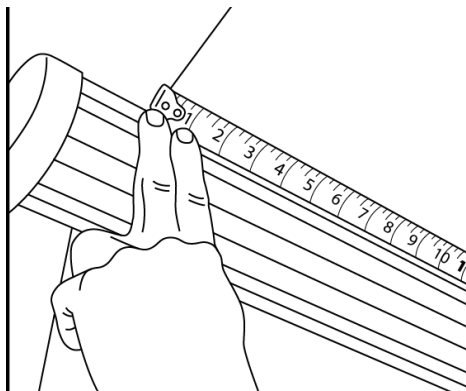
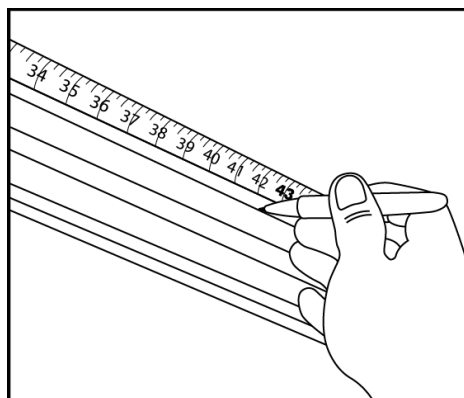

Fig.20
Fig.21
1. With the awning fully extended, measure the distance calculated using the chart on the previous page from the edge of the awning fabric. **(Fig.20)**. Mark the roller tube at that predetermined distance and 1/2" down from the fabric seam. **(Fig.21)**. This is where the first Awmbrella arm will later be installed. Continue to make all measurements and markings along the roller tube for placement of the remaining arms. Verify the correct spacing before proceeding to the next step.